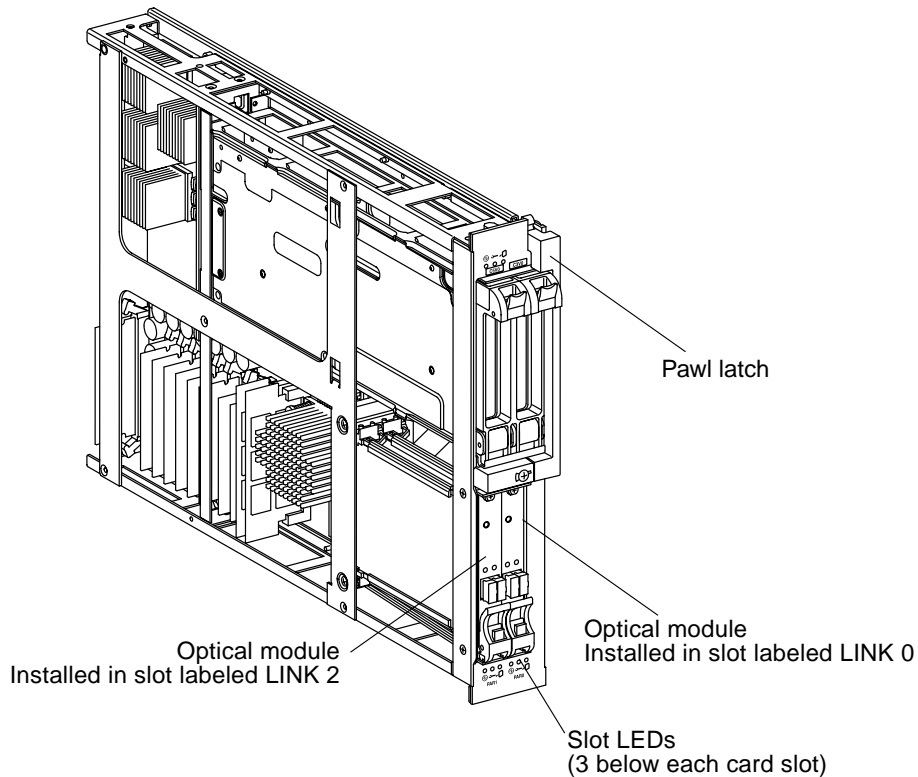

FIGURE 3-3 Sun Fire Link Assembly for Sun Fire 15K/12K Systems
The Sun Fire Link assembly (FIGURE 3-3) is based on an hsPCI I/O Assembly for a Sun Fire 15K/12K system.
Each Sun Fire Link assembly (FIGURE 3-3) contains four slots. Slot 0 and Slot 3 are standard CompactPCI slots which can be used for other approved CompactPCI functions in a Sun Fire 15K/12K system. Slots LINK 0 and LINK 2 are used only for Sun Fire Link optical modules.
4. Insert a Phillips No. 1 screwdriver in the pawl latches (FIGURE 3-3), turning counter clockwise to release the lever and lift the carrier insert-eject lever.